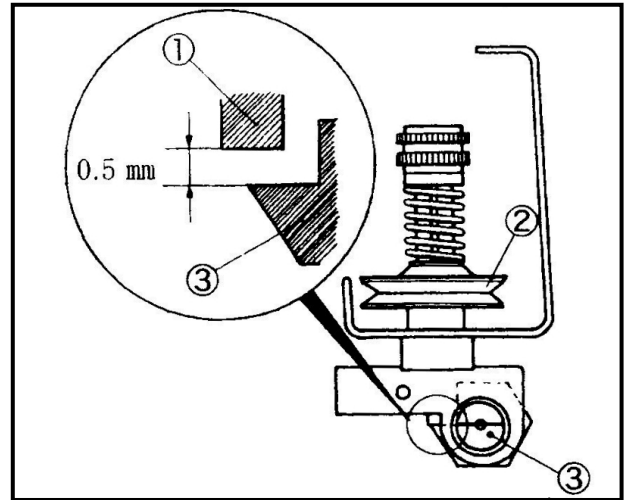

Fig.9
當踩下踏板時，六個鬆線器①會向上推，之後上夾線片②開始離開下夾線片。(Fig.9)
As standard, make the clearance between the tension release pins ① and the tension release shaft ③ to 0.5mm when six tension release pins ① are pushed up slightly and the upper thread tension disc without pressing the presser foot pedal. (Fig.9)
(2) 翻轉鬆線器座③用螺絲起子。(Fig.9)
(2) Turn the tension release shaft③ with a screwdriver.(Fig. 9)